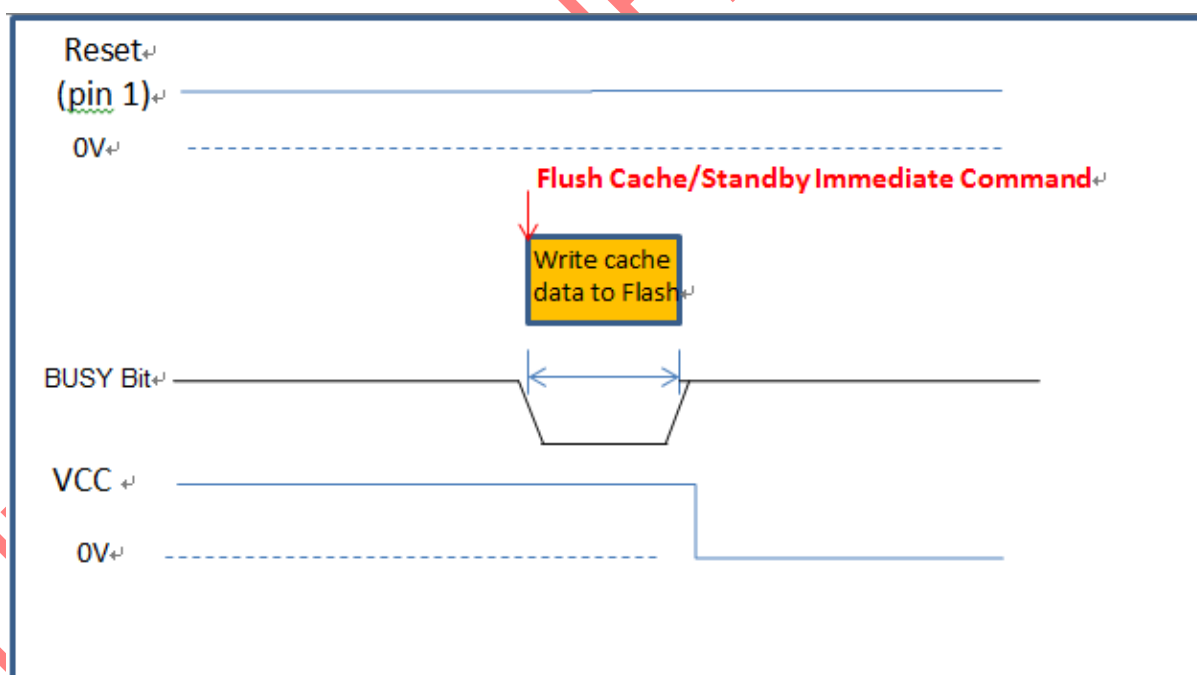

Figure 3 Power off sequence
**Note:** Power off without Flush Cache command or Standby Immediate Command in advance may cause cache buffer data which received from host and waiting for programming lose. Please implement the power off sequence as the process in the Figure 3 to prevent the data loss